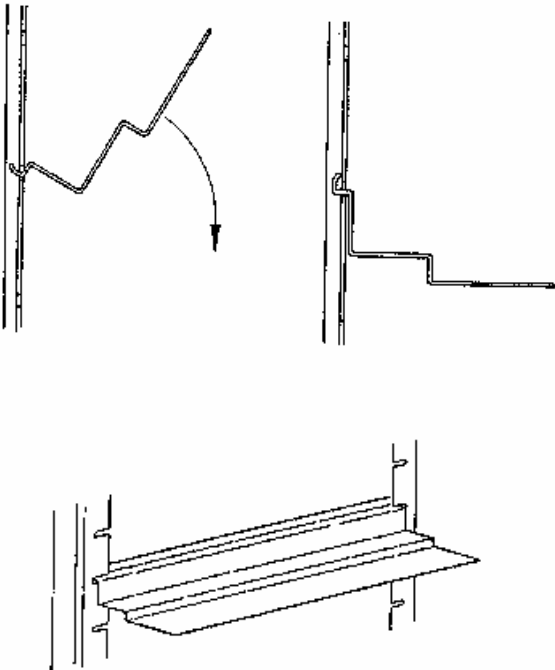

Figure 1
7. Install screen rack angles onto angle supports by tilting the angles up and sliding the flange into the notches of the supports. See Figure 1.